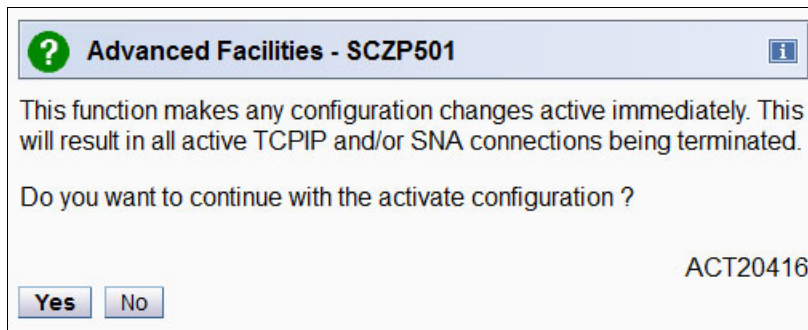

Figure 14-87 OSA Advanced Facilities: confirmation of activate configuration
4. The confirmation panel opens (Figure 14-87). Click **Yes**.